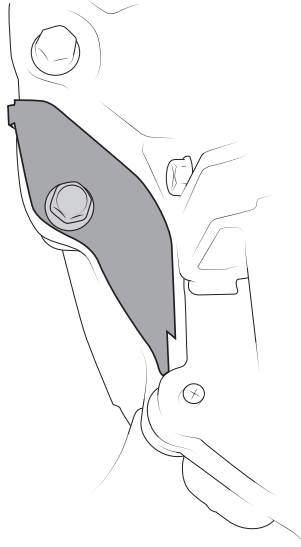

Figure 13
10. Remove small dust shield on the passenger side (fig 13).